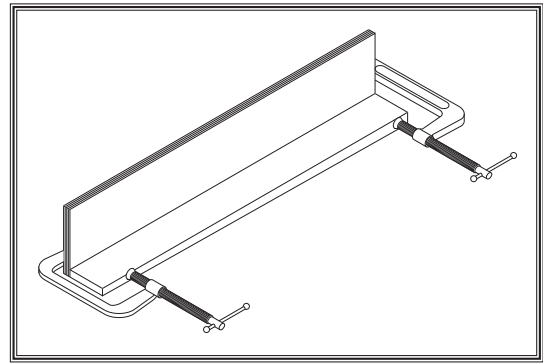

Figure 87. Clamping the resawing barrier.
3. Glue the end of the 3" board, then clamp the boards at a 90° angle with the larger board in the vertical position as shown in **Figure 87**.